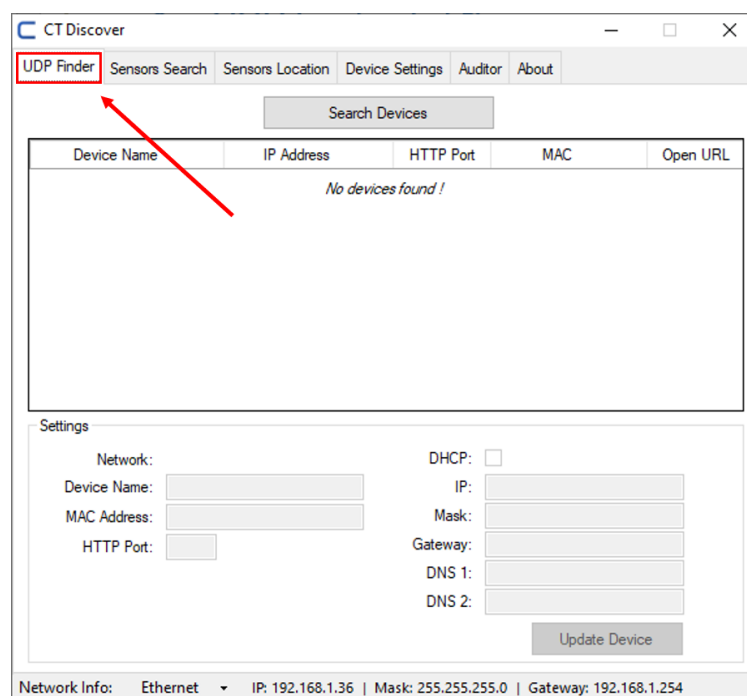
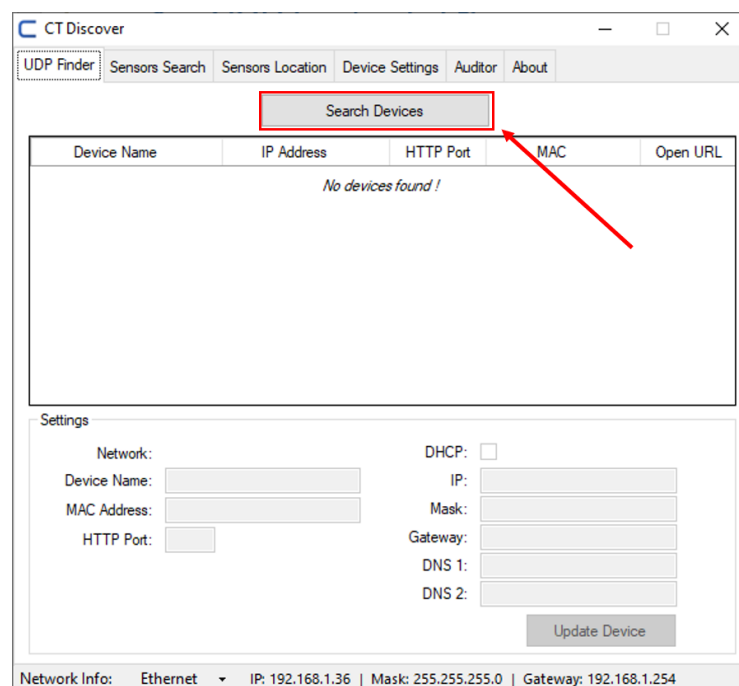

Figure 12 – CT Discover "UDP Finder" Tab
Figure 13 – CT Discover "Search Devices" button
2. Open legally relevant software "CT Discover" to perform the Nidus search on the network it was connected to. Go to "UDP Finder" tab(Figure 12) and click on "Search Devices" button (Figure 13)